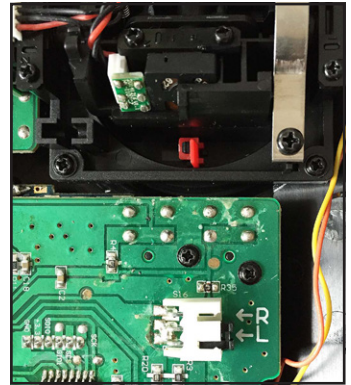

Fig.3
4. Set the jumper on the S16 connector : R is for Mode 1, L is for Mode 2 (See fig.3);